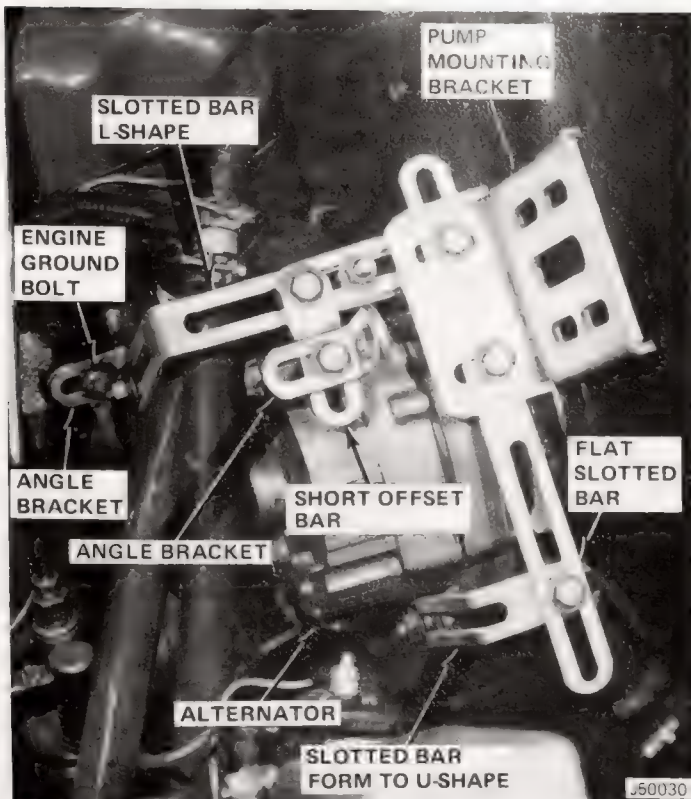

Fig. 1-51 Pump Bracket Installation—Six-Cylinder
(4) Remove alternator belt tension adjustment bolt and engine ground bolt (fig. 1-51).
(5) Position assembled L-shaped sections over alternator belt tension adjustment point and engine ground point. Secure L-shaped section in position using appropriate bolts.
(6) Adjust alternator belt tension and tighten all bolts used in L-shaped and U-shaped slotted bar installations.
(7) Attach flat slotted bar to U-shaped slotted bar using screw, flat washers, lockwasher, and nut. Do not tighten.
(8) Attach pump mounting bracket to flat slotted bar using two screws, four flat washers, two lockwashers, and two nuts. The screw nearest center of